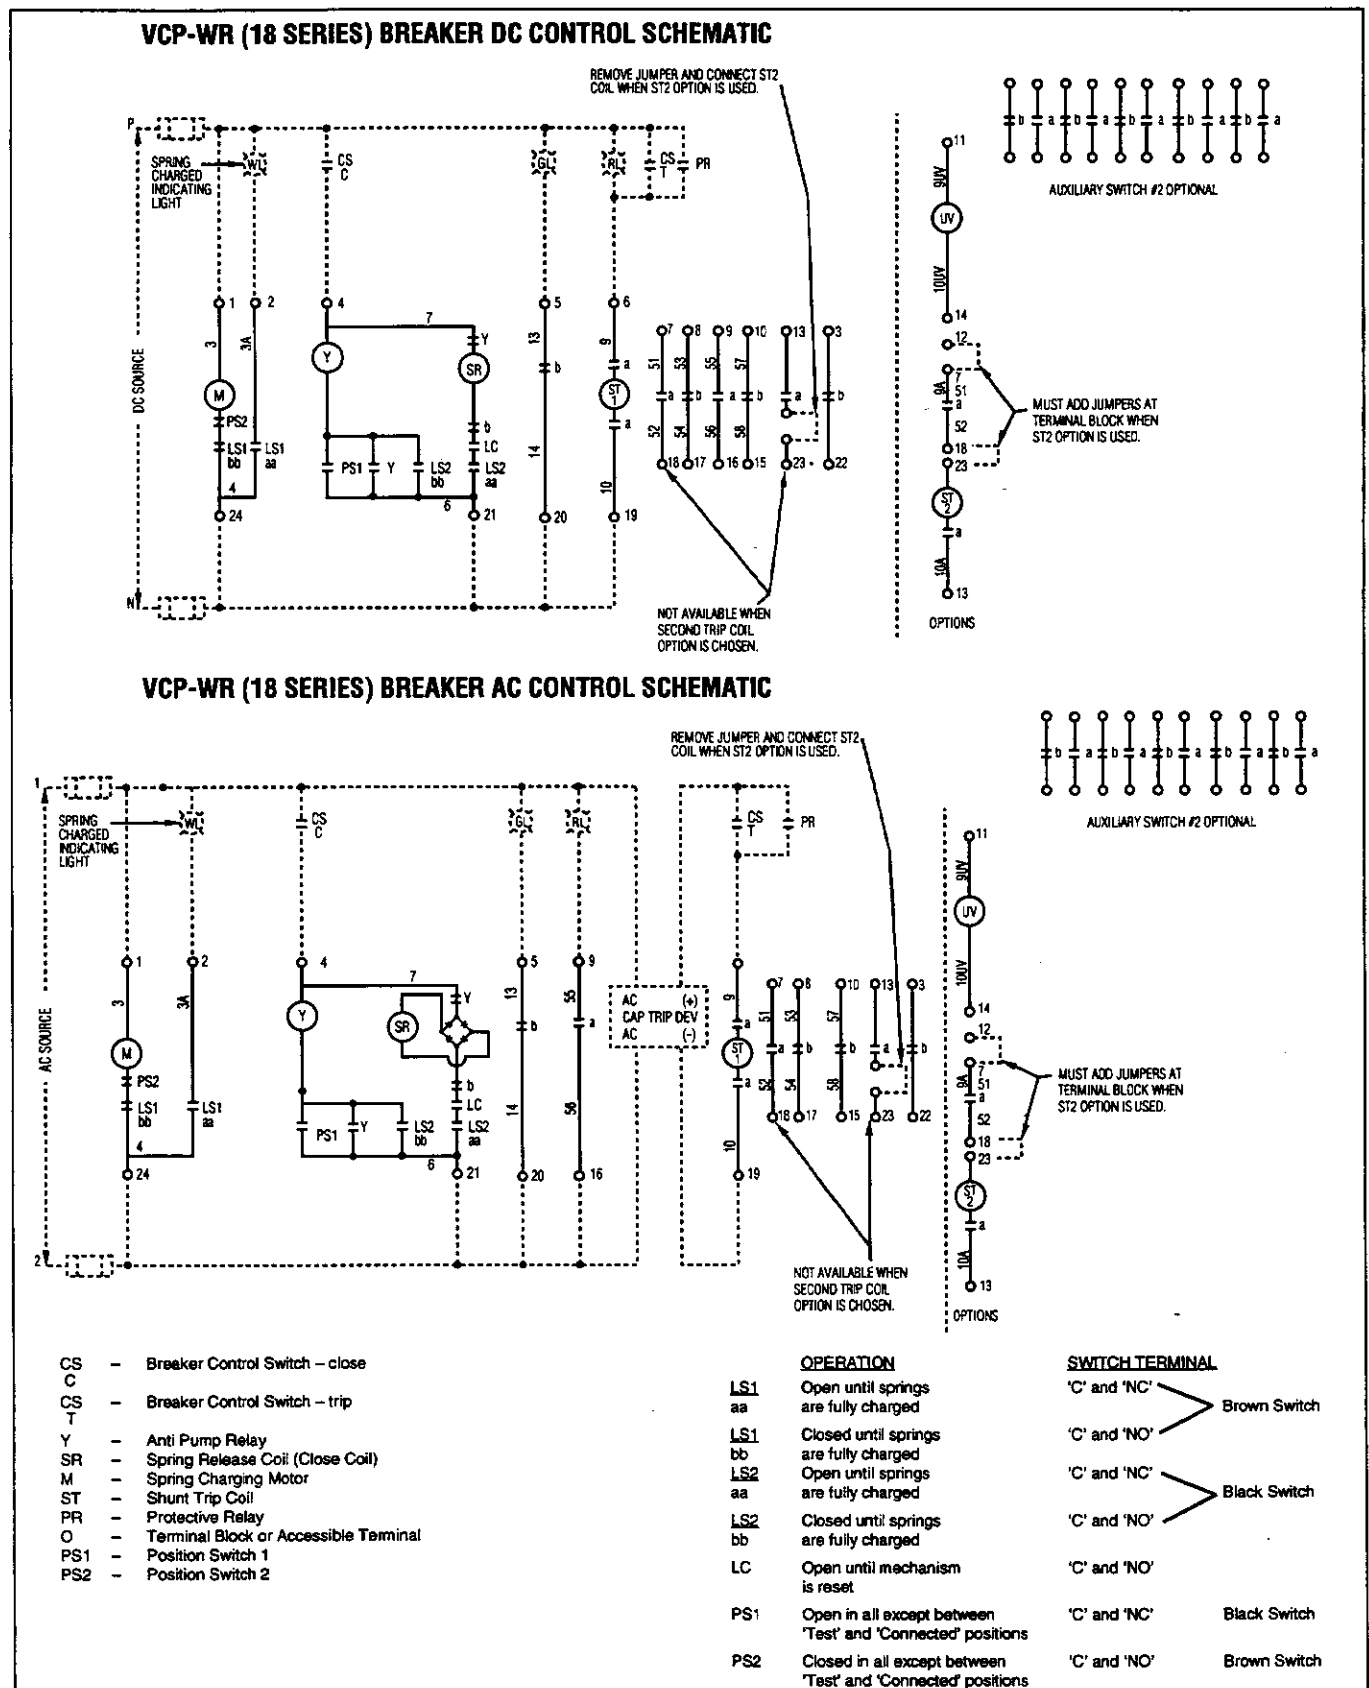

Figure 6.2 Typical Series 18 "DC" and "AC" Control Schematics
There are two basic control schemes for each series of Type VCP-WR breakers, one for DC control and one for AC control voltages (Figures 6.2, 6.5 and 6.8). There may be different control voltages or more than one tripping element, but the principal mode of operation is as follows:
All VCP-WR breaker elements are supplied with 2 12-point secondary control terminal blocks for simple secondary control access. A number of points are used for breaker operation with a number of spare contacts for customer use. Refer to the control schemes of Figures 6.2, 6.5 and 6.8 for exact contact useage and availability.
- Review the Series 18 specific control scheme (Figure 6.2) and the outline drawing (Figures 1.1) presented earlier before proceeding.
Secondary control access is provided by 2 12-point secondary control terminal blocks located at the top front of the breaker element (Figure 3.2). The Series 18 control scheme indicates which points are used for breaker operation and which are available for customer use (Figure 6.2).